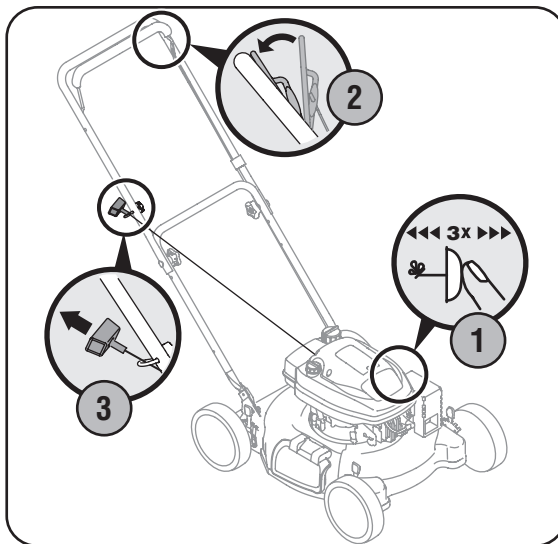

Figure 4-2
1. If equipped, push primer three times. Wait about two seconds between each push. See Figure 4-2. In temperature around 55° F or below, prime five times. Do not prime to restart a warm engine.
3. Holding these two handles together firmly, grasp recoil starter handle and pull rope out with a rapid, continuous, full arm stroke. See Figure 4-2. Keeping a firm grip on the starter handle, let the rope rewind slowly. Repeat until engine cranks. Let the rope rewind each time slowly.